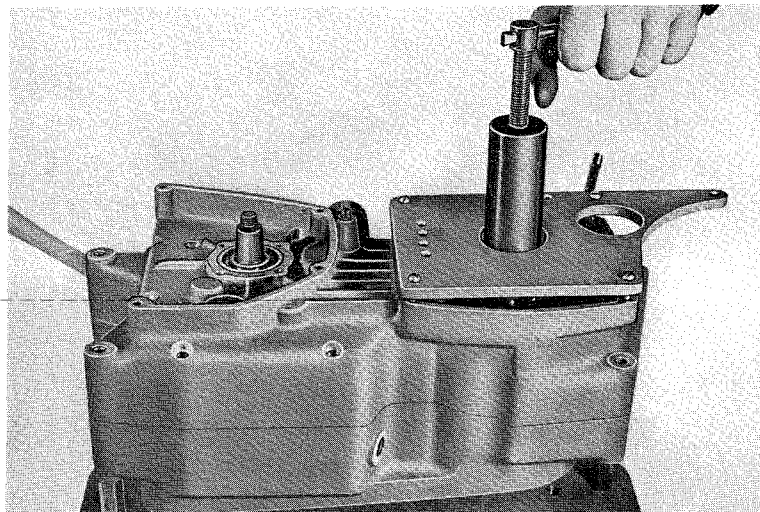

Fig. 7
7. Pull off the right-hand crankcase half. Using a plastic mallet or the like, knock the rear edge of the engine upwards while at the same time knocking the output shaft and countershaft downwards. See Fig. 7.